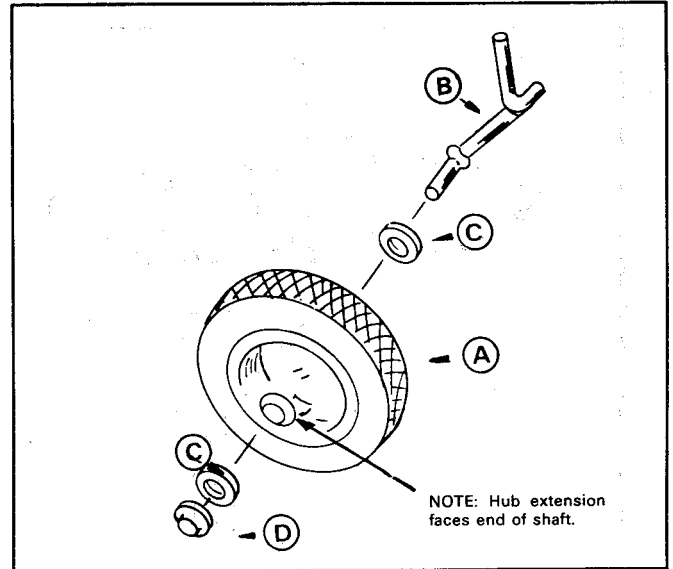

FIGURE 6.
FIG. 6. Assemble the two gauge wheels (A) onto axles (B) as shown, using a ½" flat washer (C) on both sides of the wheel. Then drive a push nut (D) over each axle end.